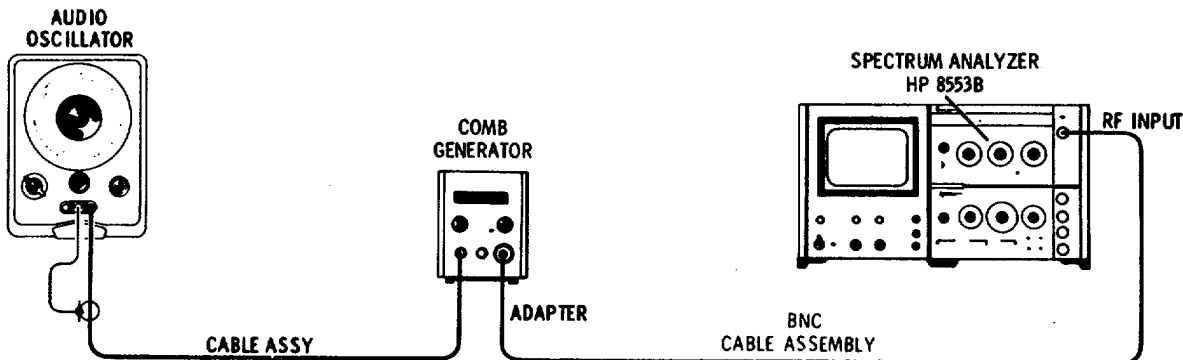

Figure 4-7. Scan Width Accuracy Test: .05 MHz/Div
4. To test .05 MHz SCAN WIDTH PER DIVISION setting, connect test equipment as shown in Figure 4-7.